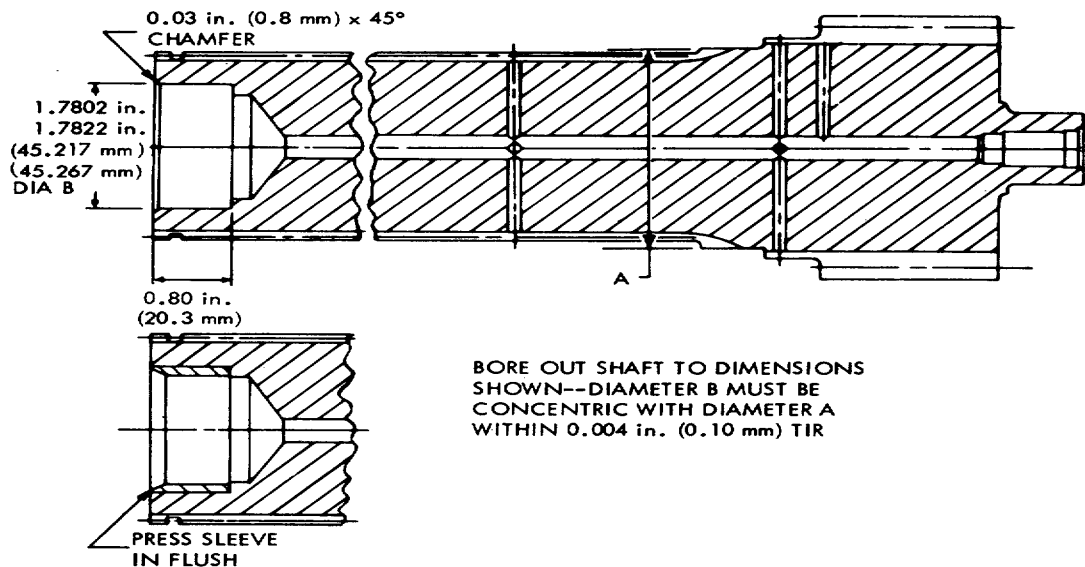

Figure 15-98. Rework of Splitter Output Shaft Bore
2. If the front bore of shaft 3 is worn or scored, rework the bore to dimensions shown in Figure 15-98.